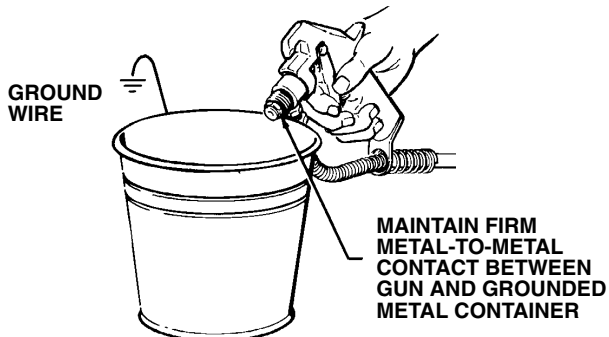

Fig 3
- f. Hold a metal part of the gun firmly against and aimed into a grounded metal waste container . See Fig 3. Squeeze the trigger and hold it open, turn the sprayer ON, and slowly increase the pressure setting until the sprayer starts. Keep the gun triggered until all air is forced out of the system and the paint flows freely from the gun. Release the trigger and engage the gun safety latch.